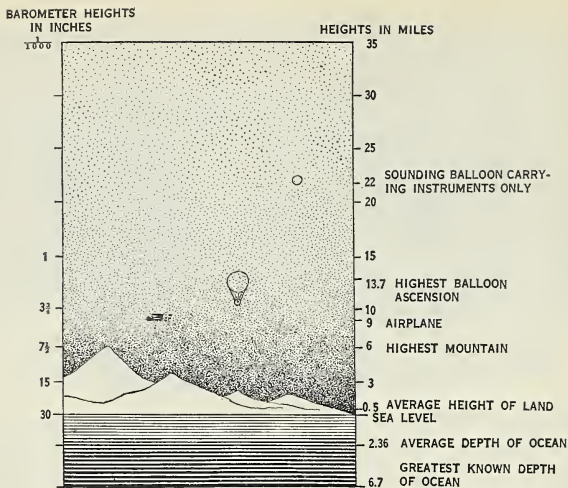

Fig. 22. Half of the air is within three miles of the earth's surface. It thins rapidly with ascent.
**How air pressure affects us.** Although the air extends upward over 200 miles above the earth, it is very rare at the upper levels and denser at the lower levels. In fact, three fourths of the air is pressed down within 6 miles of sea level, and more than half is within 3 miles (Fig. 22). Thus the atmosphere is mostly compressed into a small layer at the bottom. It is in this bottom layer at sea level that the pressure is 15 pounds to the square inch. Most people on the earth are accustomed to live at about that pressure.